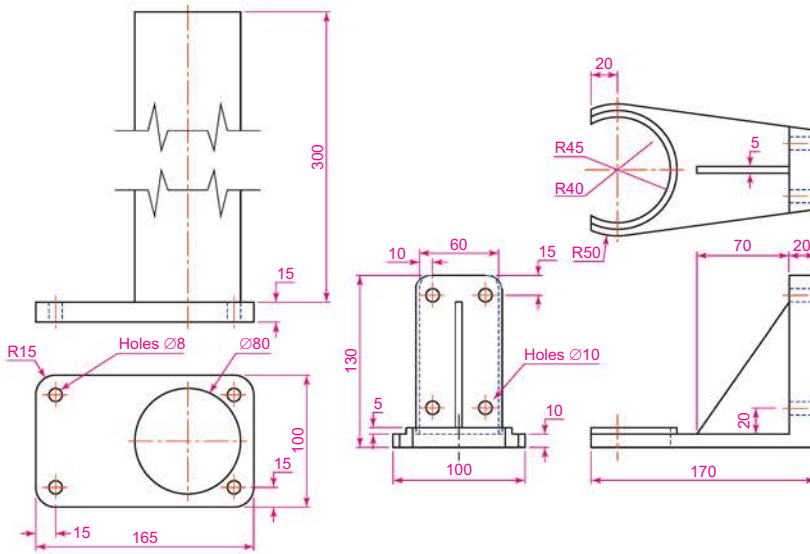

Fig. 16.28 Second example – Rendering – orthographic projection
1. Construct 3D models of the two parts of the stand and support given in the projections Fig. 16.28 with the two parts assembled together.